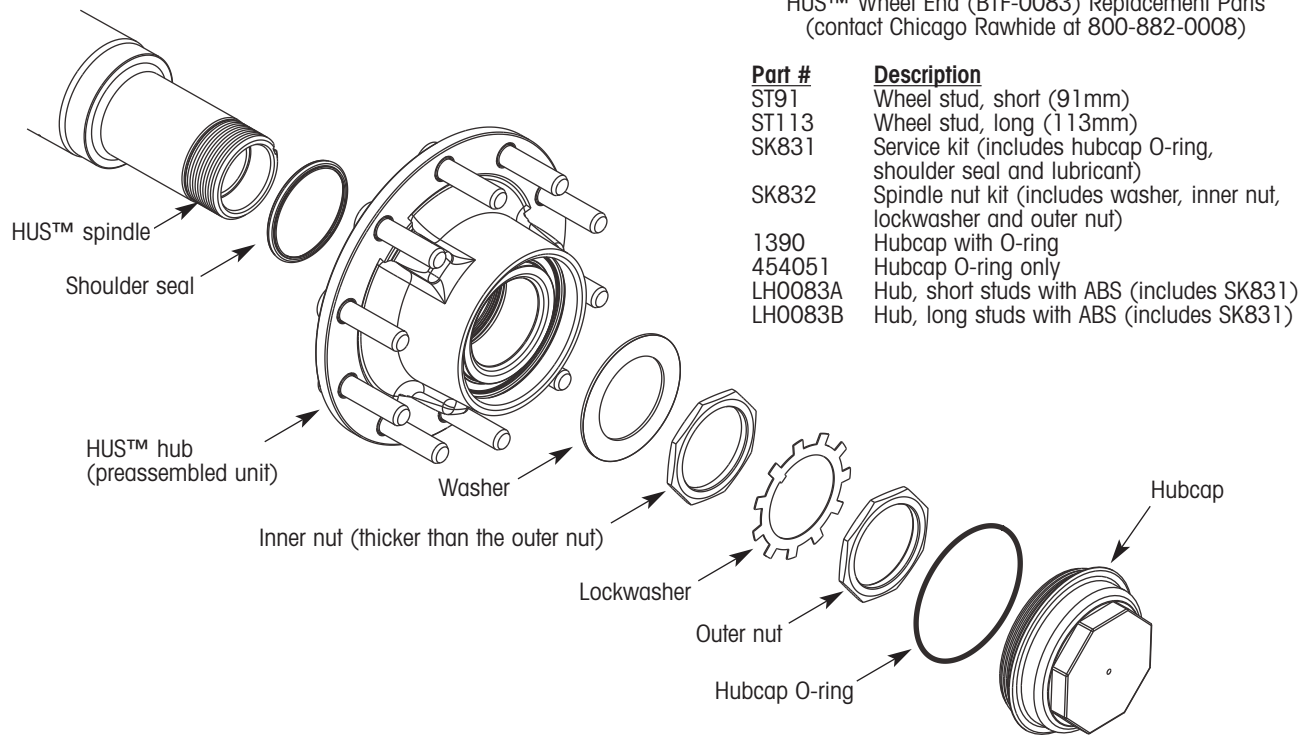

Figure 1. HUST™ wheel end parts identification
The HUST™ hub (figure 1) is a permanently sealed and lubricated assembly designed to help reduce wheel-end maintenance.
- Remove the outer spindle nut, lockwasher, inner spindle nut and washer (all items can be seen in figure 1). Use care when removing the inner spindle nut to prevent damage to the hub outer seal.